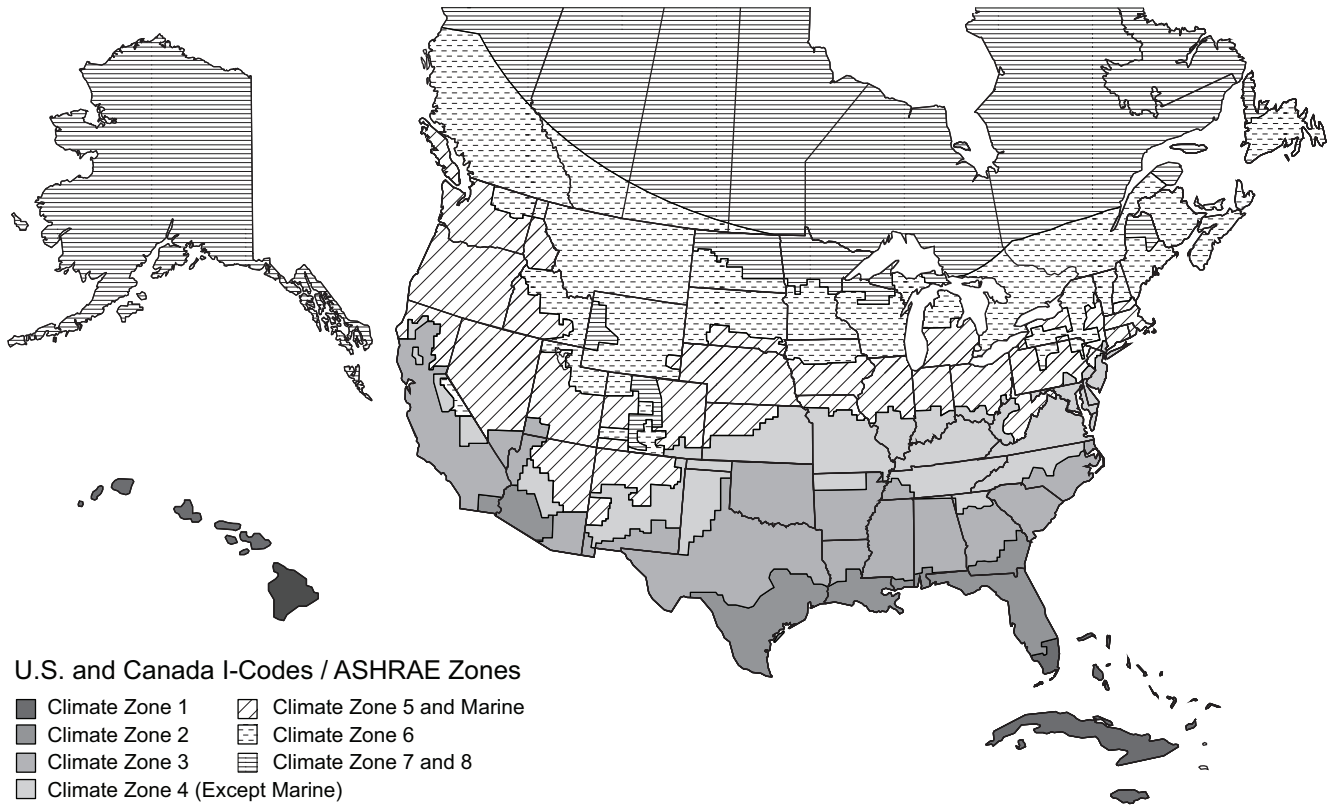

Fig. 83 — U.S. and Canada Climate Zones
- a. See Fig. 83 for map of U.S. and Canada climate zones.